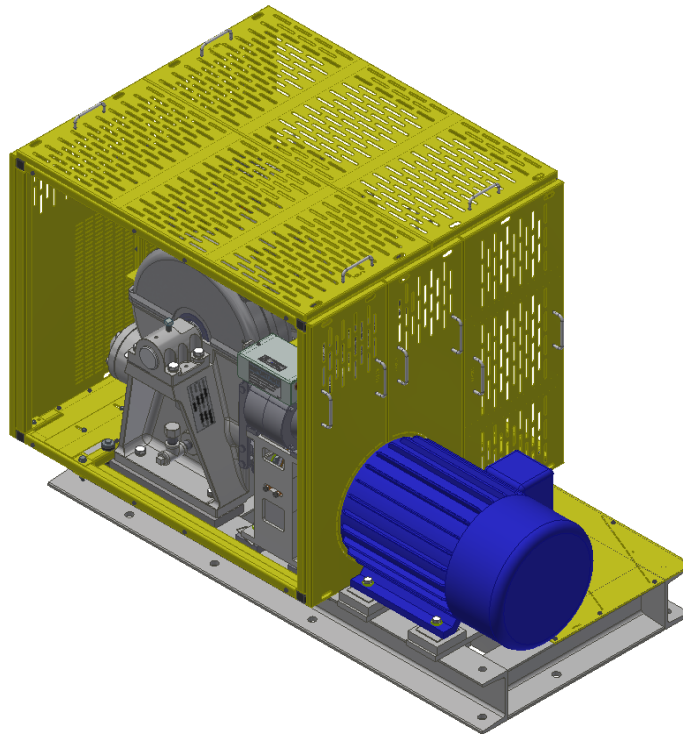

Figure 32: Machine Guard Top Panel Installation
- Attach Machine Guard Top Panel(s) (p/n _ _-234) and tighten #10-24 screws as shown below (Figure 32).